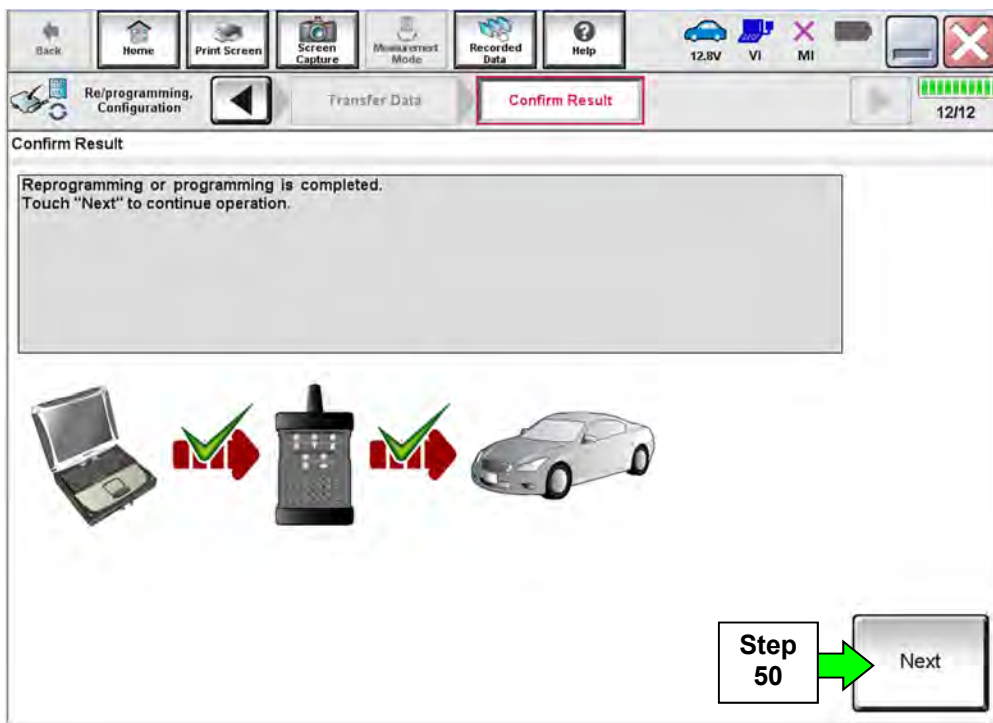

Figure 29
48. When the screen in Figure 29 displays, reprogramming is complete.
NOTE: If the screen in Figure 29 does not display (indicating that reprogramming did not complete), refer to ICC/ADAS recovery on the next page.